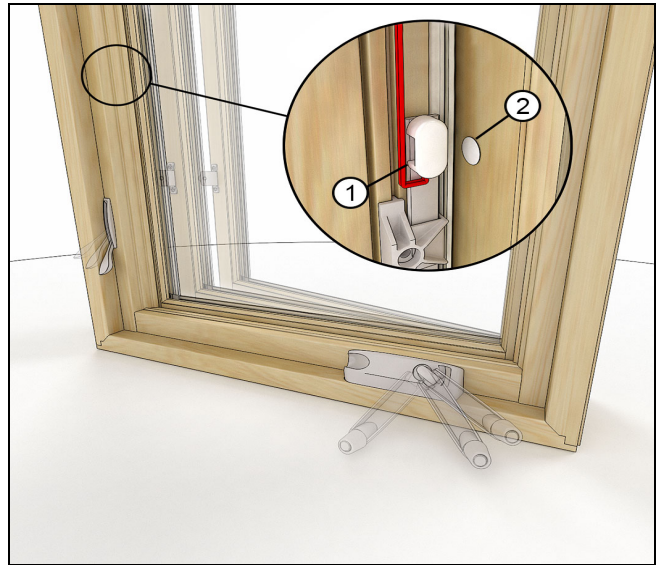

Figure 6
1. Close the sash fully and engage the lock handle. The sensor will align with the magnet and signal a closed and locked status. See Figure 6.